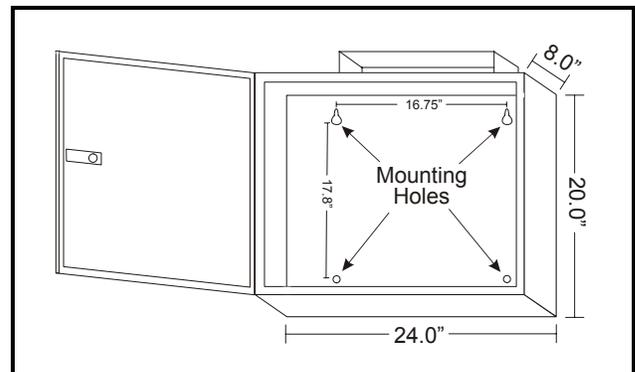

Figure 1-2 - PMAC II Solo Dimensions
1. Mount the PMAC II Solo in a central location such as a motor or electrical room. The panel should be in an area where there is plenty of ventilation (e.g., not in a closet). Keep a 6-12 inch clearance on the top and bottom for proper air flow. The room's ambient temperature should always be below 100° F. See *Figure 1-2* for dimensions.